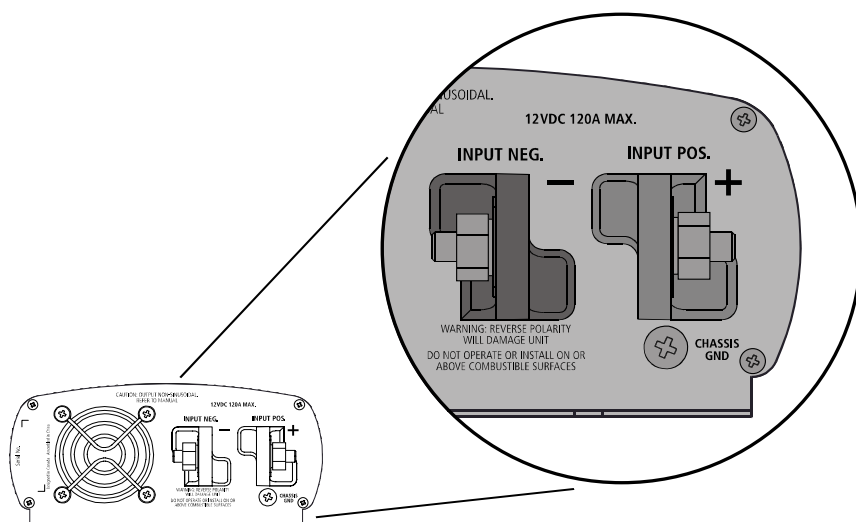

Figure 3-3 DC Panel Connections
See Figure 3-3 on page 3-12.
The XPower 1000 has a screw terminal labelled **CHASSIS GND** on the rear panel as shown in Figure 3-3 on page 3–12. Follow the guidelines in “Grounding Locations” to connect the inverter’s chassis to the ground.
9. Install the lock washer and nut that are supplied with the inverter. Tighten the nut to a torque of **6–7 lbF-in (0.68–0.79 Nm)**. Make the connection snug enough so the ring terminal does not move around on the DC terminal, but do not overtighten. See Figure 3-3, “DC Panel Connections” on page 3–12.